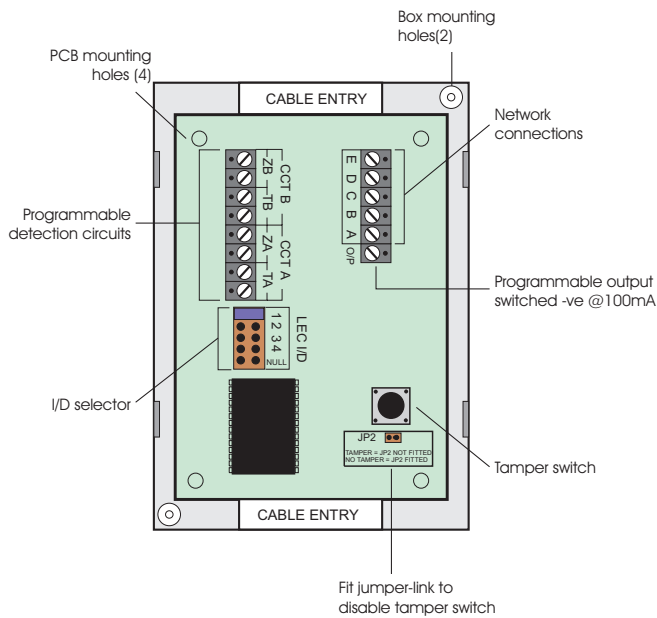

Figure 17. TS700 LEC Layout
2. If the LEC is being fitted inside the control panel remove the LEC PCB from its base and secure it to the base of the control panel using self adhesive feet. If required, the tamper switch can be disabled by fitting the jumper link across JP2, see Figure 17.